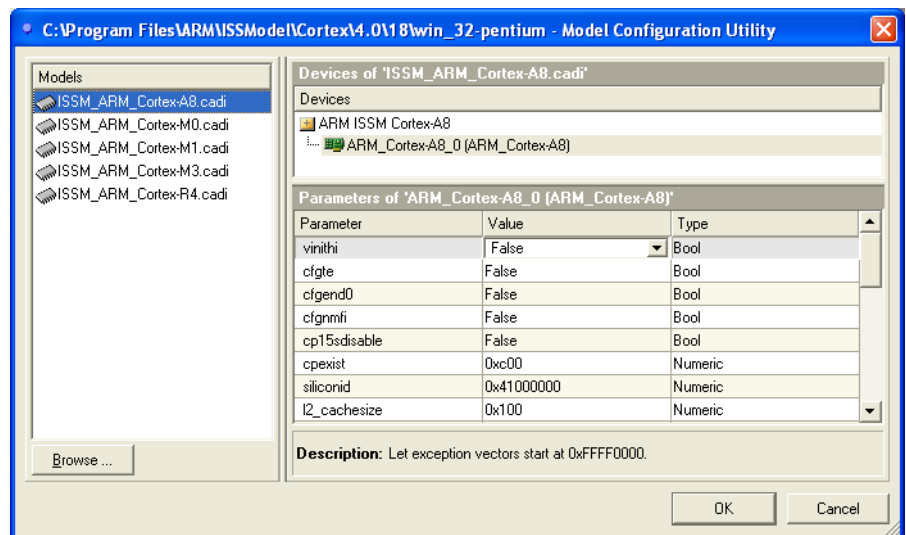

Figure 2-3 Model Configuration Utility dialog box
- e. Select a model from the Models list. Figure 2-3 shows an example: